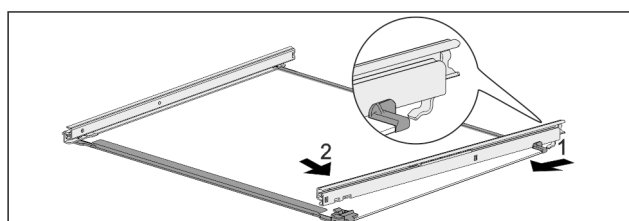

Fig. 53 Glass shelf with rails
- Hook in rail at the back. Fig. 53 (1)
- Hook in rail at the front. Fig. 53 (2)